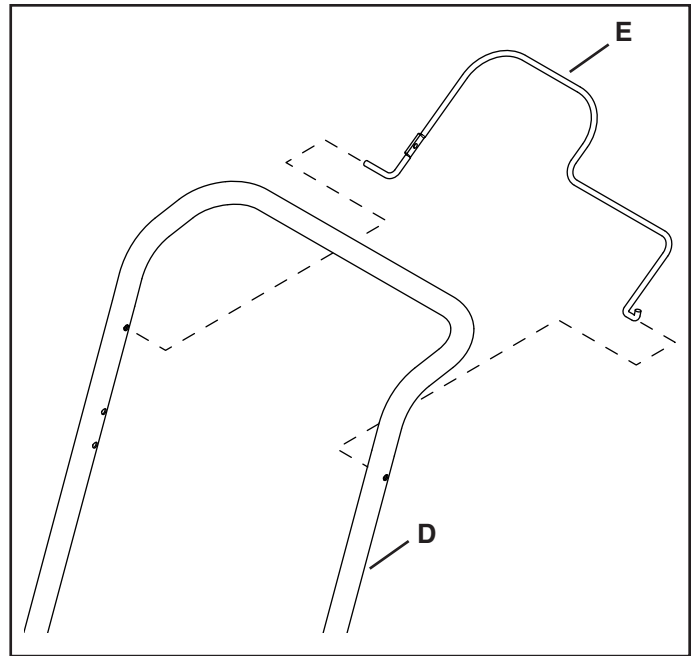

FIGURE 5
STEP 5: (SEE FIGURE 5)
- Insert the ends of the flow control bail (E) into the handle tube (D), inserting the bent end first. The bail should pull back freely against the handle.